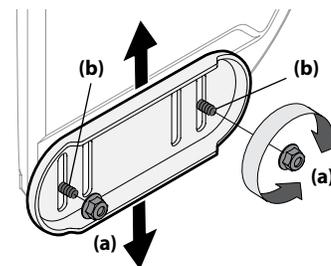

Figure 2-49
1. Loosen four hex nuts (a) (two on each side) and carriage bolts (b). Move skid shoes to desired position. See Figure 2-49.
- NOTE:** The skid shoes on your unit may look slightly different (and have different hardware) than ones shown in Figure 2-49.
Position skid shoes based on surface conditions. Adjust upward for hard-packed snow. Adjust downward when operating on gravel or crushed rock surfaces. See Skid Shoe Adjustment section on page 13 Figure 2-49.